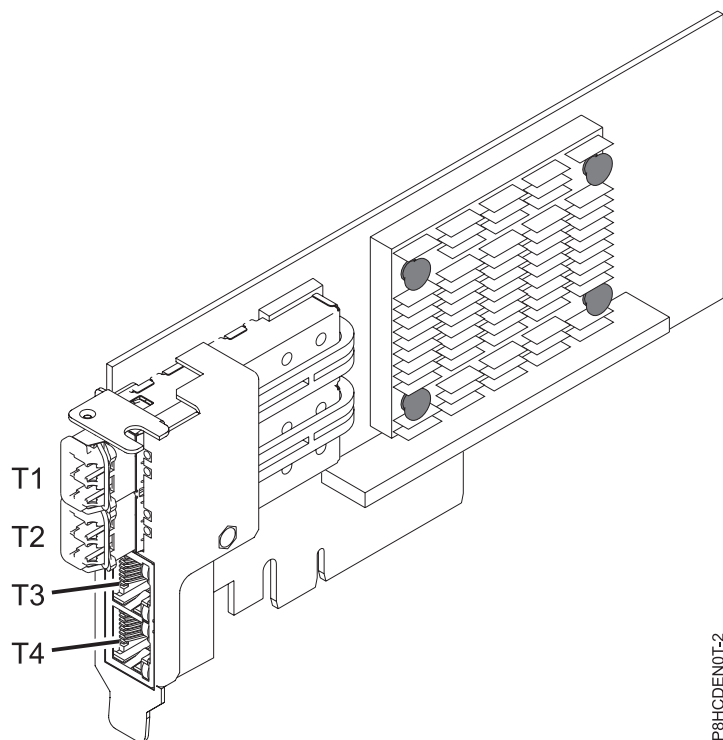

Figure 31. FC EN0T adapter
The four-port adapter provides two 10 Gb small form-factor pluggable (SFP+) optical SR transceiver ports and two 1 Gb RJ45 Ethernet ports. The two 10 Gb SR ports have little connector (LC) duplex-type connectors. The optical transceiver uses shortwave laser optics and is attached with MMF-850nm fiber cabling with LC connectors. See “Cables” on page 41 for more information about the optical cables. Each 10 Gb port provides Ethernet connectivity with a nominal data rate of 10 Gbps (gigabits per second). Figure 31 on page 40 shows the FC EN0T adapter.